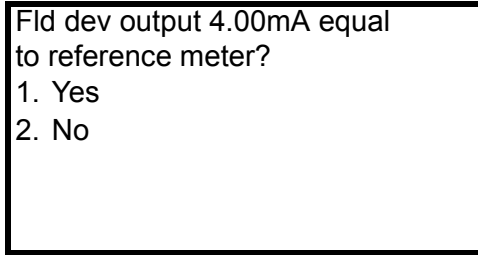

Figure 39 Verification of current output
6. Press F4 (ENTER). The converter will start to accurately output 4mA based on the input value. The display as shown in Figure 39 will then appear. Measure the current manually and verify that it is 4mA. After this is verified, select "1. Yes" and proceed on to the next step. By choosing "2. No", the display of that shown in Fig-